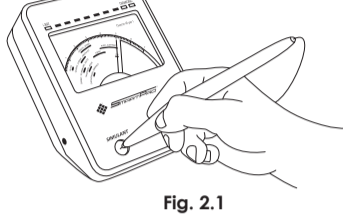

Fig. 2.1
Step 2. Test the Simulant Test Disc by pressing the probe pen onto it (**Fig. 2.1**). The indicator should rise and maintain in the "CAL" label. See User's manual page 16.